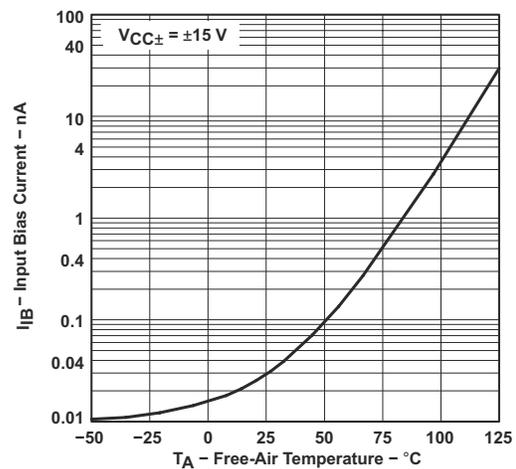

图 6-12. Input Bias Current vs Free-Air Temperature
- (1) All characteristics are measured under open-loop conditions with zero common-mode input voltage unless otherwise specified. Full range for T_A is 0°C to 70°C for TL06xC, TL06xAC, and TL06xBC and -40°C to 85°C for TL06xI.
- (2) Input bias currents of an FET-input operational amplifier are normal junction reverse currents, which are temperature sensitive, as shown in Fig 6-12. Pulse techniques are used to maintain the junction temperature as close to the ambient temperature as possible.
- (3) Specified by design and characterization; not production tested.
- (1) All characteristics are measured under open-loop conditions with zero common-mode input voltage, unless otherwise specified. Full range for T_A is 0°C to 70°C for TL06xC, TL06xAC, and TL06xBC and -40°C to 85°C for TL06xI.
- (3) Assured by design and characterization; not production tested.
- (1) This parameter is not production tested.
- (2) All characteristics are measured under open-loop conditions, with zero common-mode voltage, unless otherwise specified.
- (3) Input bias currents of an FET-input operational amplifier are normal junction reverse currents, which are temperature sensitive, as shown in Fig 6-12. Pulse techniques are used to maintain the junction temperature as close to the ambient temperature as possible.
- (4) Specified by design and characterization; not production tested.